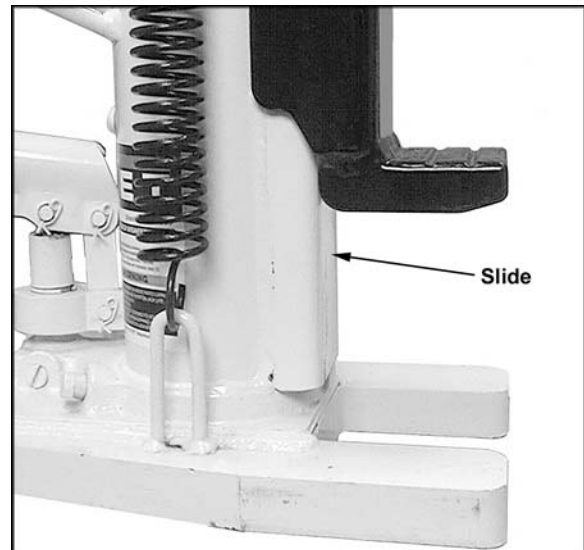

Figure 2
2. Lubricate the slide (Figure 2) with #2 lithium base grease monthly.